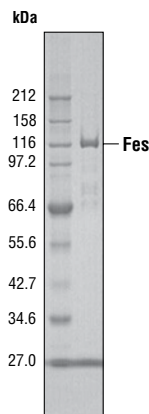

Figure 1. The purity of the GST-Fes fusion protein was analyzed using SDS/PAGE followed by Coomassie stain.
**Quality Control:** The theoretical molecular weight of the GST-Fes fusion protein is 125 kDa. The purity of the kinase was assessed using SDS-PAGE followed by Coomassie stain [Fig.1]. Fes kinase activity was determined using a radiometric assay [Fig.2].
- (1) Smithgall, T.E. et al. (1998) *Crit. Rev. Oncog.* 9, 43–62.
- (2) Greer, P. (2002) *Nat. Rev. Mol. Cell Biol.* 3, 278–289.
- (3) Sangrar, W. et al. (2005) *Cancer Res.* 65, 3518–3522.
- (4) Ley, T.J. et al. (2003) *Proc. Natl. Acad. Sci. USA* 100, 14275–14280.
- (5) Delfino, F.J. et al. (2006) *J. Biol. Chem.* 281, 8829–8835.